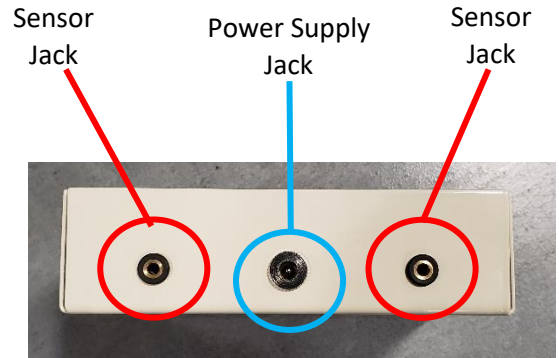

Figure 3 (top)
- 9) Feed sensor wires into the top of the control box (Figure 3).
- 12) Locate ¼" plug from power supply and plug into top of the control box (Figure 3)